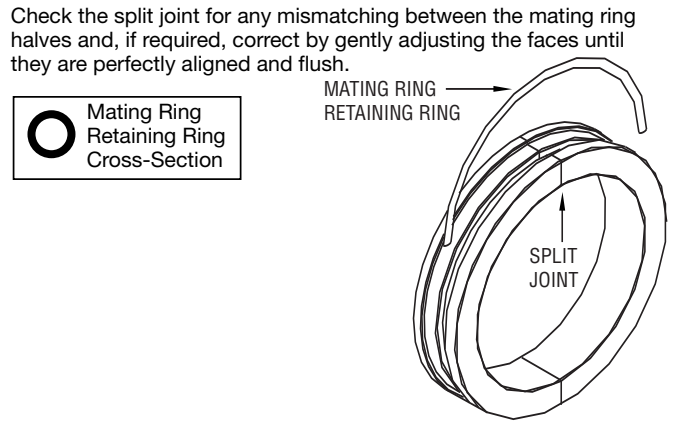

FIGURE 3
3. Center the mating ring retaining ring over the split joint and press it into the deep center groove in the mating ring assembly, as shown in Figure 3.